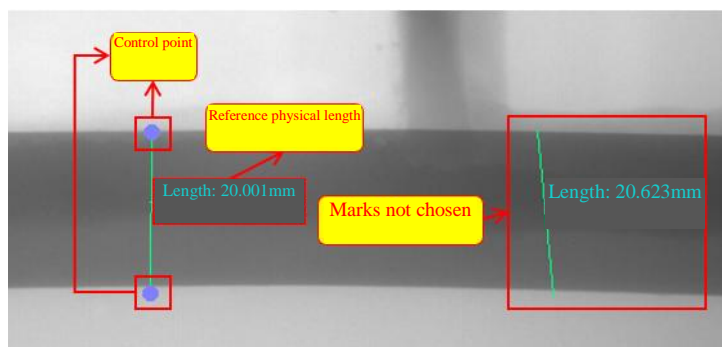

Fig. V-43 Length Measurement Mark
1) Click the toolbar icon  or "Tool (T)" ->"Measurement" ->"Length" in the menu bar to enable length measurement.
2) Move the mouse to the position to be measured, press and hold the left mouse button, drag the mouse for a certain distance, and a line segment is automatically made at the position where the mouse stops in the main image window, meanwhile, the physical length of this distance is displayed beside the line segment (see Fig. V-43).